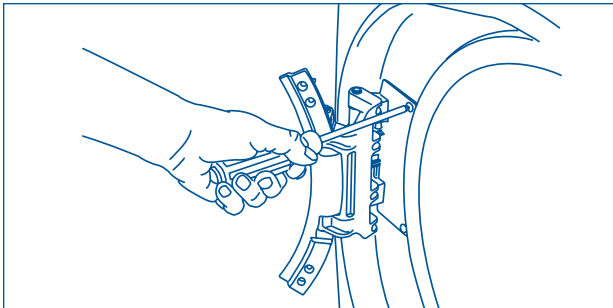

Figure 2-12.
1. With the hinge in open position, remove 2 short, course-thread, panhead screws on hinge plate. (See Figure 2-12)